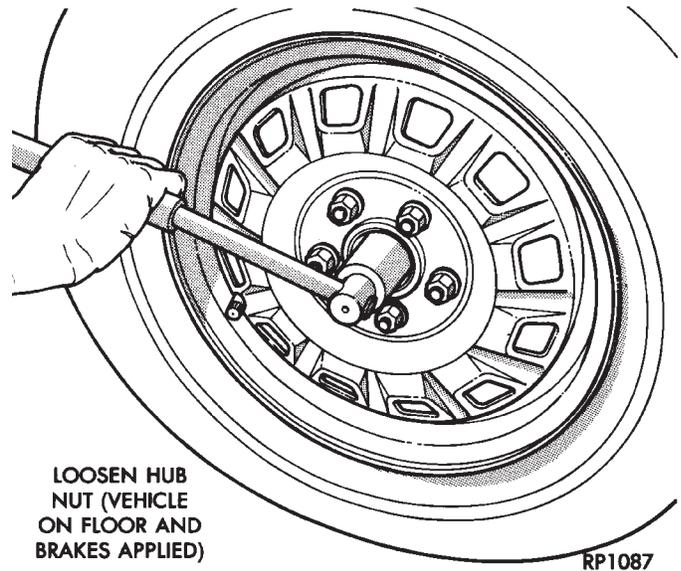

Fig. 2 Loosen Hub Retaining Nut & Wheel Nuts
(2) Loosen front hub nut and wheel nuts while vehicle is on floor and brakes applied (Fig. 2).